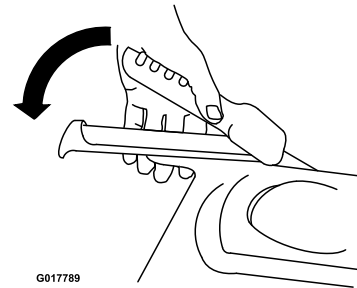

Figure 12
- Slowly squeeze the left traction-drive lever to the handle (Figure 12).